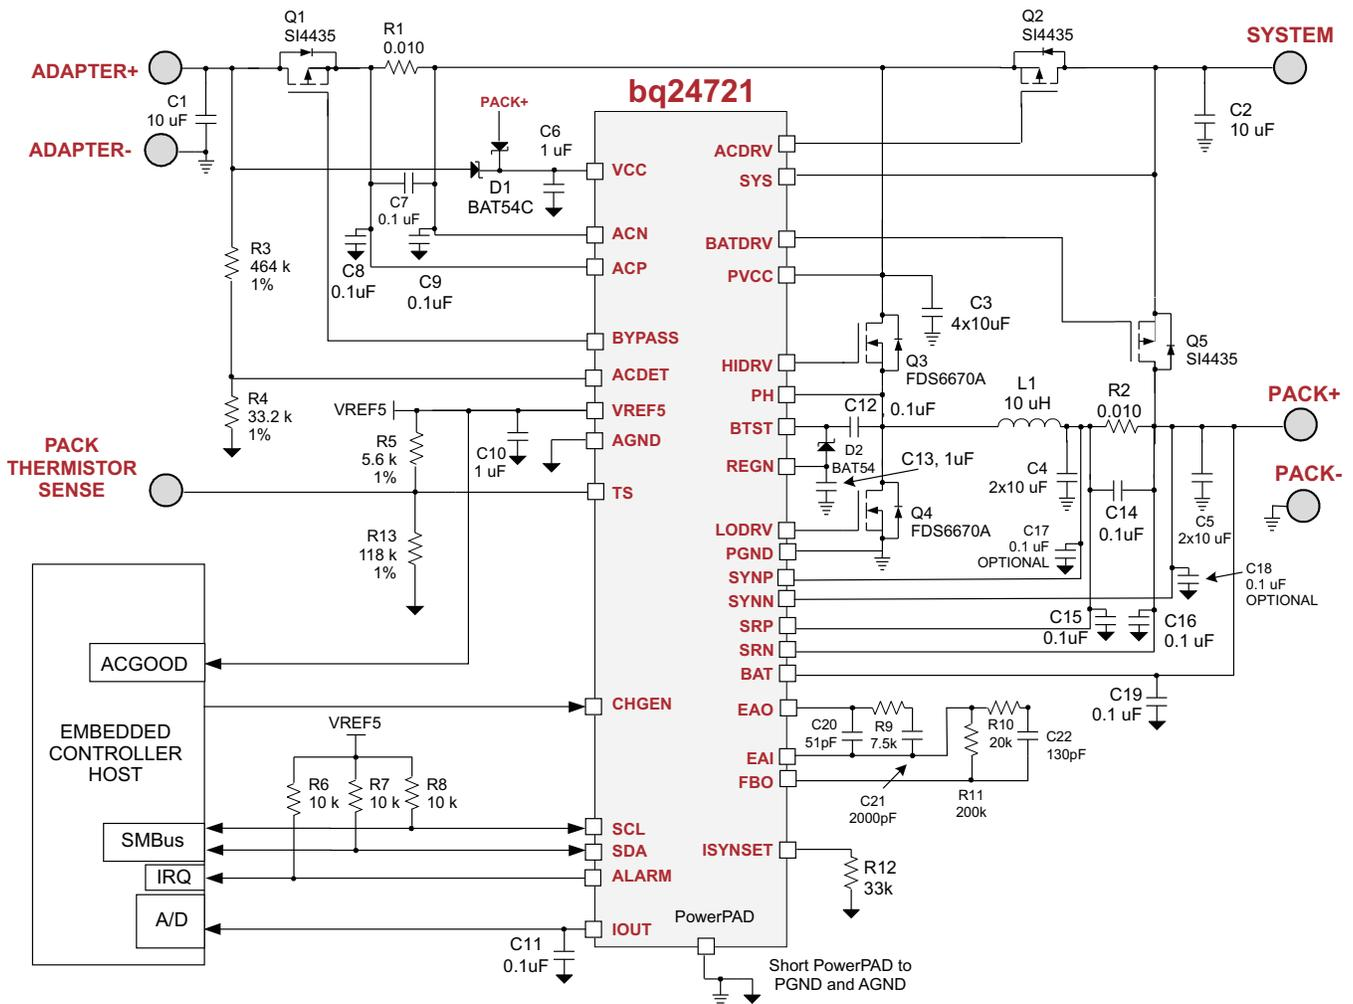

Figure 52. bq24721 SBS-Like SMBus Host Control With System Power Selector (bq24721 With TS Thermistor Sense Input Pin)
BOM Key Components (For Figure 52, bq24721 Typical Application Circuit)
(1) The manufacturer's part number are used for test purposes only.
**BOM Key Components (For Figure 52, bq24721 Typical Application Circuit) (continued)**